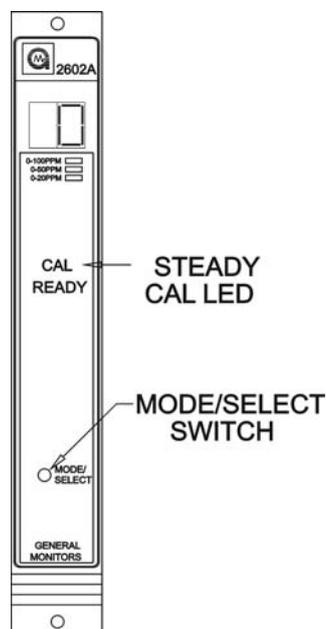

Figure 17 – Entering the CAL Mode
- Enter the Calibration mode by following the procedure for entering the Calibration Check mode, continuing to press and hold the Mode/Select switch until the **CAL** LED turns on steady (about fifteen seconds, figure 17).
- 2 Place the unit in the CAL Mode per the instruction on pages 24 & 25 of this instruction manual (figure 17).